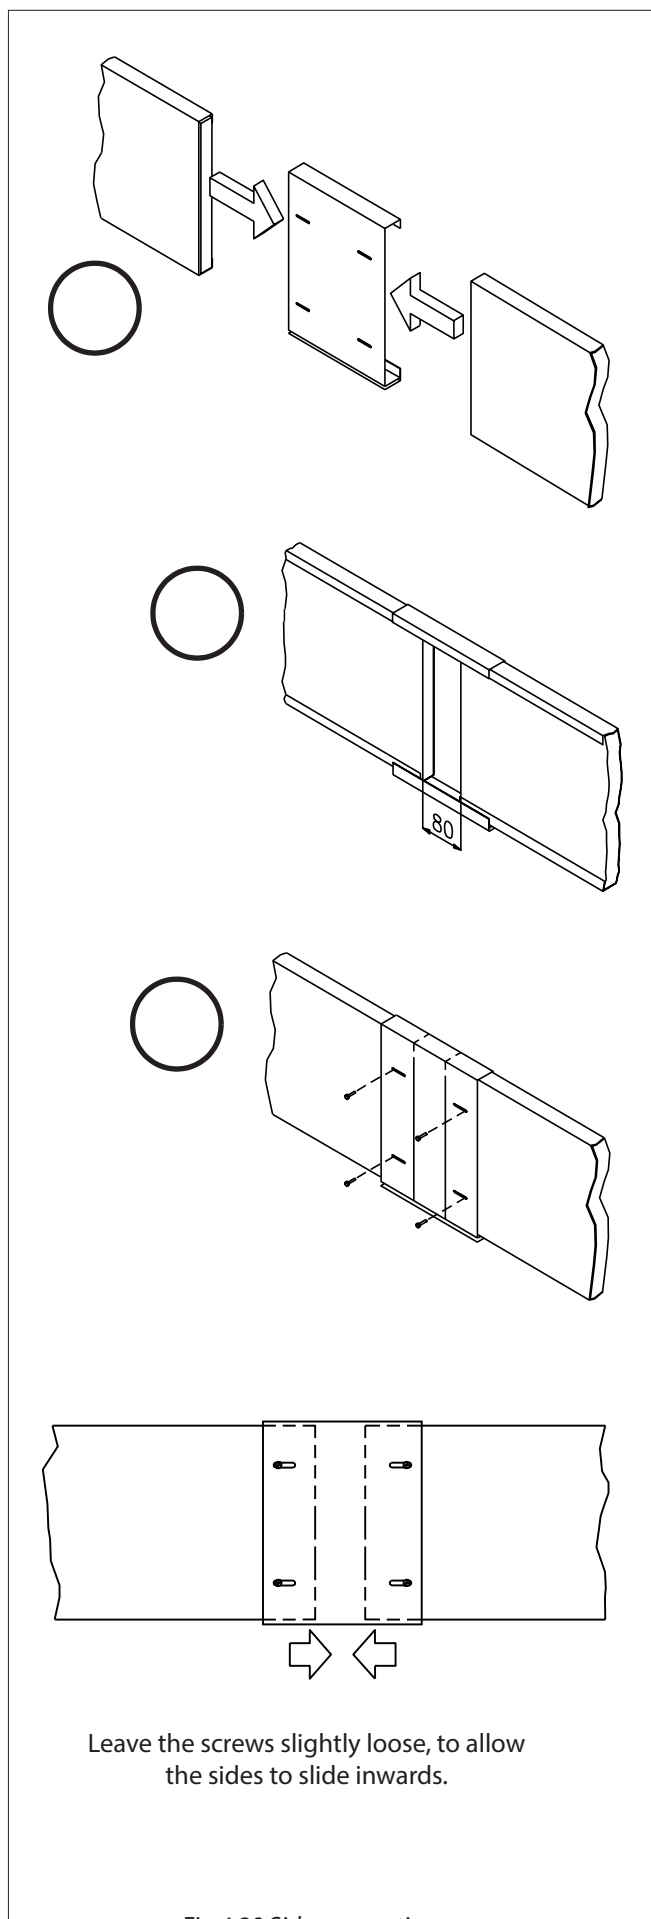

Fig.4.29 Side connections
- The space between the heads of the side connections without camber is sufficient to allow the sides to expand inwards (fig. 4.29 point B).